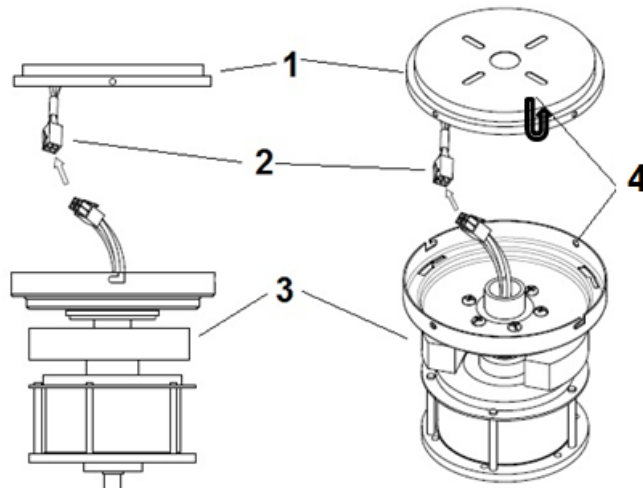

Fig. 3
- Lift the fan assembly to the mounting bracket (1) and let the J-hook of the mounting bracket (4) go through the hole of the hanging plate and hang up the fan assembly (3). Fig. 3
- Connect the male and female connector together (2). Fig. 3